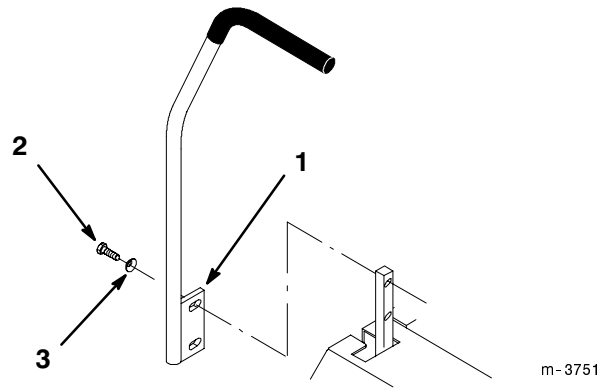

Figure 4
1. Remove the (4) 3/8-16 x 1" (26 mm) bolts and (4) 3/8" spring washers which attach the motion control levers to the control arm shafts for shipping (Fig. 4).
2. Place the levers (with the mounting plate toward the rear) on the outside of the control arm shaft and secure with (4) 3/8-16 x 1" (26 mm) bolts and (4) 3/8" spring washers (Fig. 4).
4. Align the front/rear position of the levers, with each other, in the neutral position. Loosen hardware and adjust by sliding/tilting the lever(s) forward or backward until properly aligned (Fig. 4).